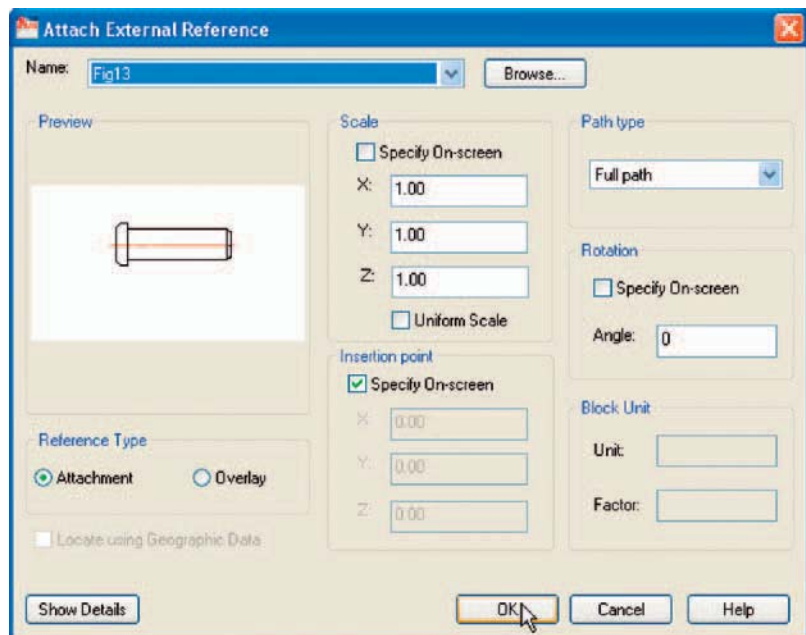

Fig. 10.16 The Attach External Reference dialog
4. Click its **Attach** button and select **Attach DWG...** from the pop-up list which appears when a *left-click* is held on the button. Select the drawing of a spindle (Fig13.dwg) from the **Select Reference file** dialog which appears followed by a *click* on the dialog's **Open** button. This brings up the **Attach External Reference** dialog (Fig. 10.16) showing **Fig13** in its **Name** field. Click the dialog's **OK** button.